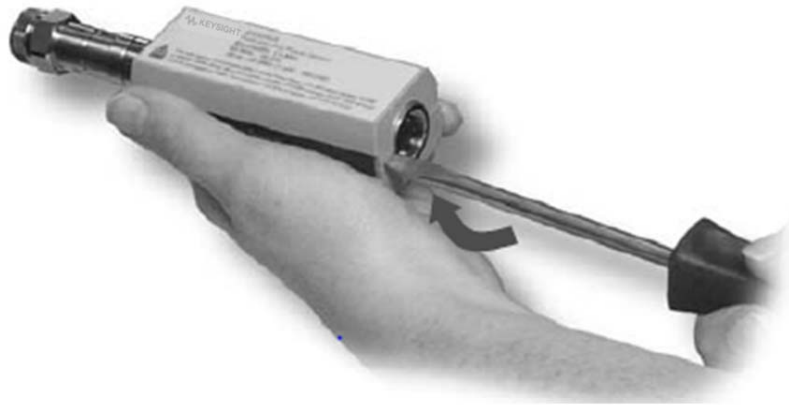

Figure 3-8 Removing the power sensor shell
- 2 At the rear of the power sensor, insert the blade of a screwdriver between the plastic shells (See Figure 3-8). To prevent damage to the plastic shells use a screwdriver blade as wide as the slot between the two shells.